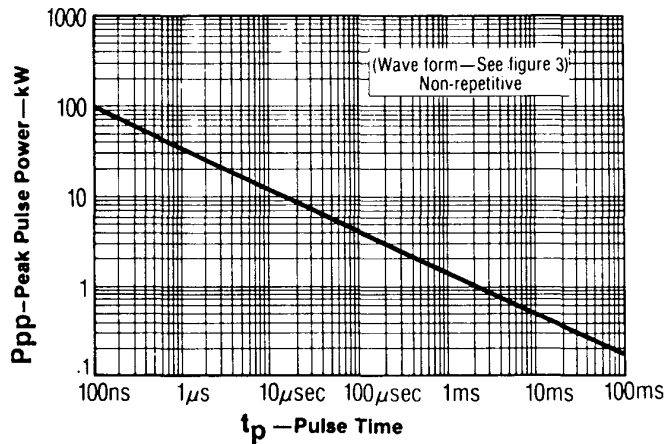

FIGURE 1
- Suppresses transients up to 1500 watts @ 10/1000 μ s (Figure 1) in less than 100 pico seconds
- 1500 Watts for 10/1000 μ s at lead temperature (T_L) 25°C (See Figs. 1, 2, and 4) with repetition rate of 0.01% or less*